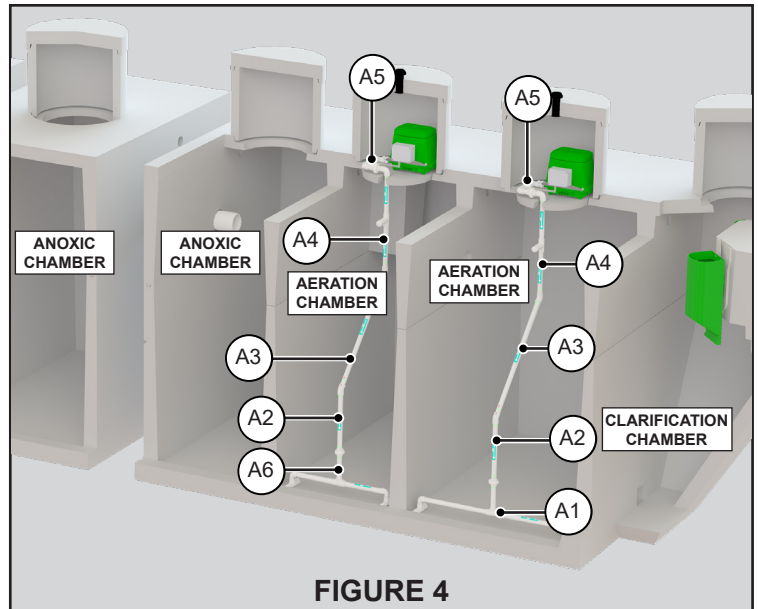

FIGURE 4
1. Remove the bundle of components labeled "AIR". Attach the smaller diffuser bar A6 to the first subassembly A2 at union as shown in Figure 4. Attach the longer diffuser bar A1 to the second subassembly A2 at union as shown in Figure 4. Securely tighten unions by hand.
2. Solvent each weld subassembly A2 to a subassembly A3 as shown in Figure 4. Insure red arrows are aligned.
3. Solvent each weld subassembly A3 to a subassembly A4 as shown in Figure 4. Insure blue arrows are aligned.
4. Install the smaller diffuser and drop pipe assembly into first aeration chamber by bending the flexible tubing. Lower assembly into the tank until the diffuser bar contacts both the floor and side wall of the tank as shown in Figure 4.
5. Install the longer diffuser and drop pipe assembly into second aeration chamber by bending the flexible tubing. Lower assembly into the tank until the diffuser bar contacts both the floor and side wall of the tank as shown in Figure 4.
7. Install each air pump in the aeration chamber risers on the support bases (or in a clean, dry, well-ventilated area protected from the elements no more than 75' from the tank). Attach each subassembly A4 to each subassembly A5 at union as shown in Figure 4. Securely tighten union by hand.